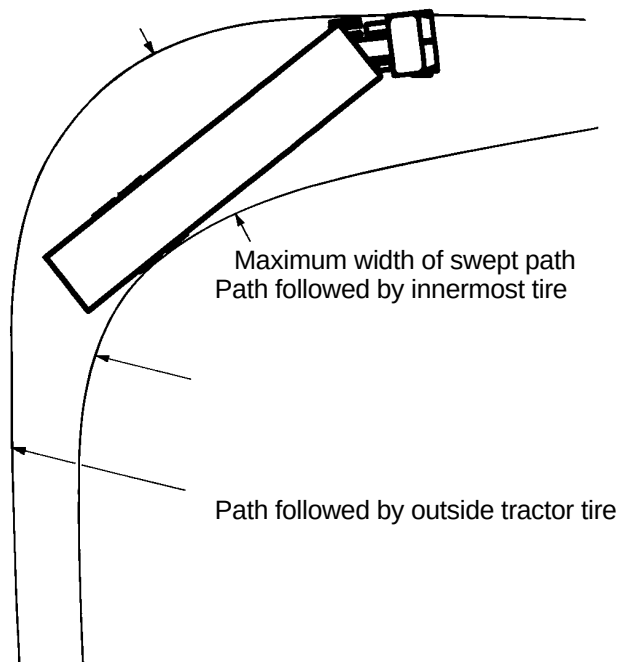
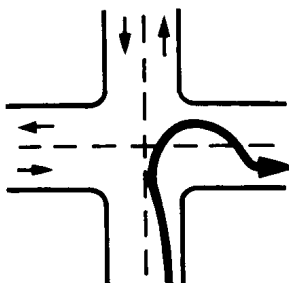

Figure 6-4
Figure 6-5
When a vehicle goes around a corner, the rear wheels follow a different path than the front wheels. This is called **offtracking** or "cheating." Figure 6-4 shows how offtracking causes the path followed by a tractor-semi to be wider than the rig itself. Longer vehicles will offtrack more. The rear wheels of the powered unit (truck or tractor) will offtrack some, and the rear wheels of the trailer will offtrack even more. If there is more than one trailer, the rear wheels of the last trailer will offtrack the most. Steer the front end wide enough around a corner so the rear end does not run over the curb, pedestrians, other vehicles, etc. However, keep the rear of your vehicle close to the curb. This will stop other drivers from passing you on the right. If you cannot complete your turn without entering another traffic lane, turn wide as you **complete the turn** (Figure 6.5). This is better than swinging wide to the left before starting the turn because it will keep other drivers from passing you on the right. If drivers pass on the right, you might collide with them when you turn.
1. What two things are important to prevent rollover? 2. When you turn suddenly while pulling doubles, which trailer is most likely to turn over? 3. Why should you not use the trailer hand brake to straighten out a jackknifing trailer? 4. What is offtracking? 5. Why should you turn like it shows in Figure 6-5?